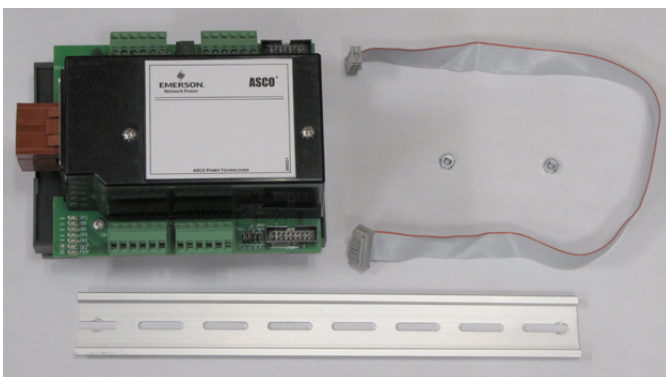

Figure 1. Accessory 18RX module kit.
2. Mount the DIN rail onto two short studs (on the door) below the controller. If a DIN rail is already installed it may have room for the 18RX module. See Figures 1 and 2.